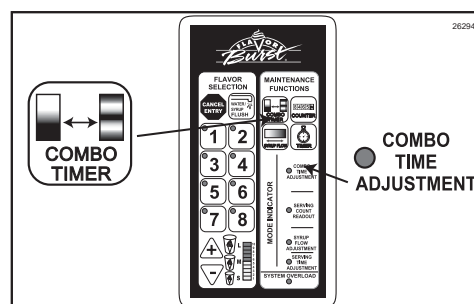

Figure 192
- Press the COMBO TIMER key to exit the mode and lock in the setting. (See Figure 192.)